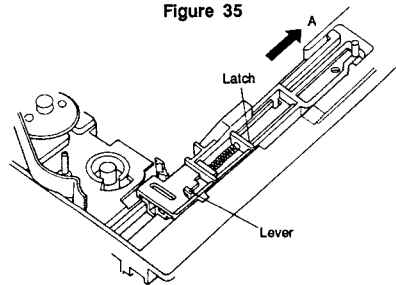

Figure 36
(4) Flip the Base upside down in state of procedure (3). Unfasten the hook of Load Gear ass'y, and remove the Gear ass'y.
(5) Move the Slide Lever in direction arrow A, as shown in Figure 36, until to stop. Press down the latch, and move the Slide Lever to stop again. Lift the Slide Lever to remove.
(6) After removing the spring, move the projection of Slide Lever -2 into the shape section of Slide Lever -1, to separate them. Reassemble the Slide Levers in the reverse order.